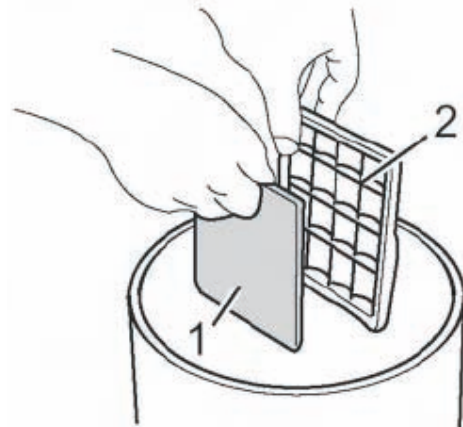

Fig.23
3. Remove the motor protection filter (Fig. 23/1) from the filter holder (Fig. 23/2) over a dustbin.